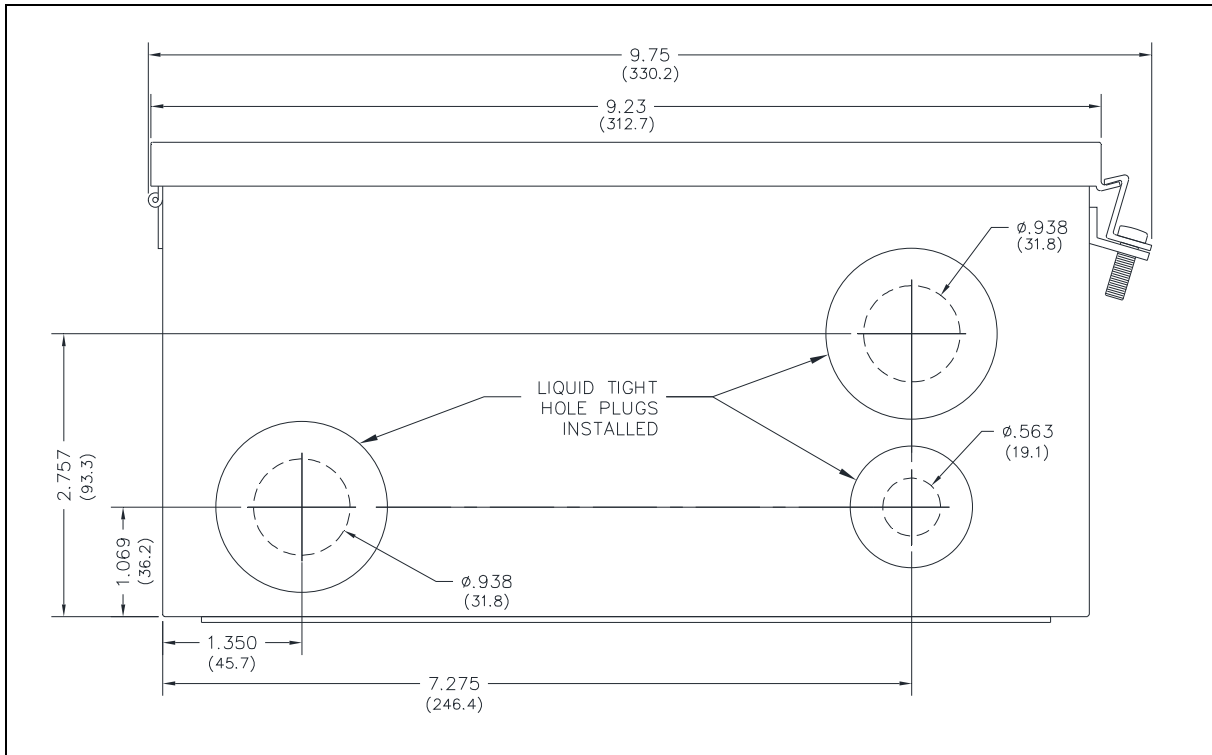

Figure 3. E3 IP Strobe MRM Cable Entries
- GAI-Tronics supplies the Model 379-004 E3 IP Strobe MRM station enclosure with two 1-1/4-inch holes and one ¾-inch hole with sealing hole plugs (see Figure 3). Remove hole plugs and install (*customer supplied*) liquid tight conduit or cable glands when connecting field wiring.
- Use entry hole **A** for ac input power wiring. Use entry holes **B** and **C** for signal/control and/or Ethernet connections (see Figure 3).